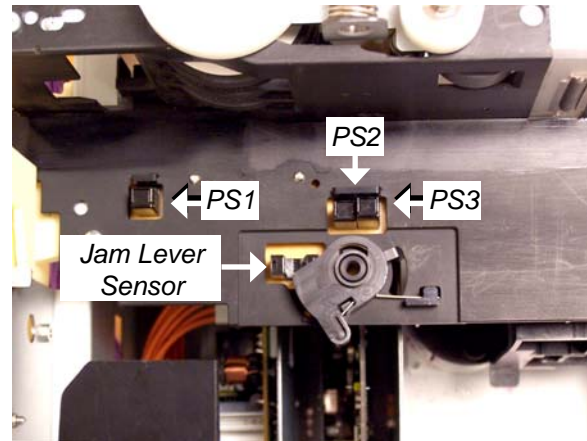

Figure 3-12 Mailing Machine Transport Sensors
**Mailing Machine.** Sensor PS1 (Printer Sensor 1) is the lead edge sensor (see Figure 3-12). It detects the lead edge of the mailpiece and initiates movement of the print carriage assembly from the home to the print position. (The carriage is home when the carriage home sensor is blocked).
See Figure 3-12, right, for the location of the mailing machine sensors. The sensor board to which the sensors are mounted is shown in Figure 3-42. Note that the 6C00 does not have a PS2 sensor mounted on its sensor board.